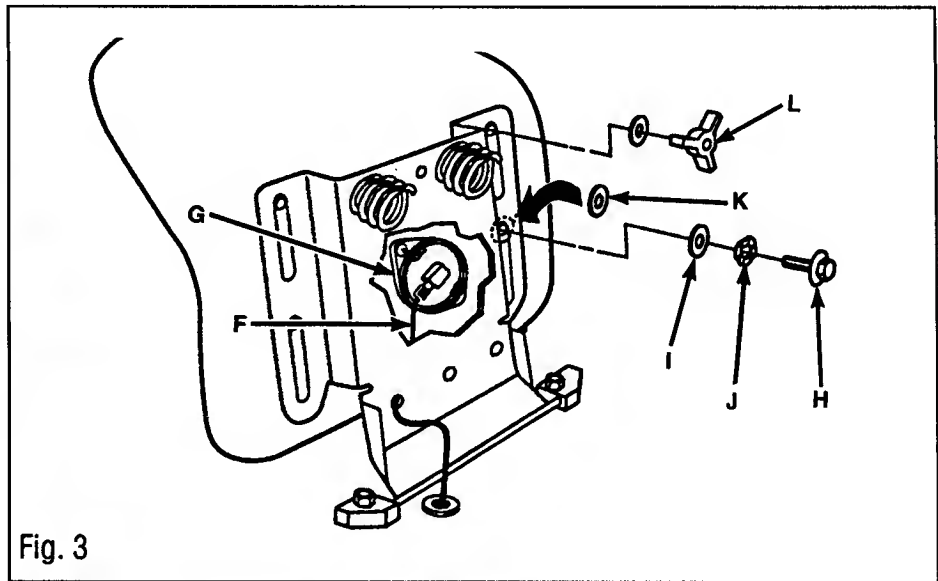

Fig. 3
1. Locate wiring harness (F, Fig. 3) under seat support and connect to seat interlock switch (G).
2. Attach front of seat to seat support using two shoulder bolts (H), nylon washer (I) and wave washer (J). Position nylon washer between wave washer and seat support. Add one 1-1/4" steel washer (K) between seat and seat support on each bolt (H). Secure rear of seat with two flat washers and hand knobs (L).